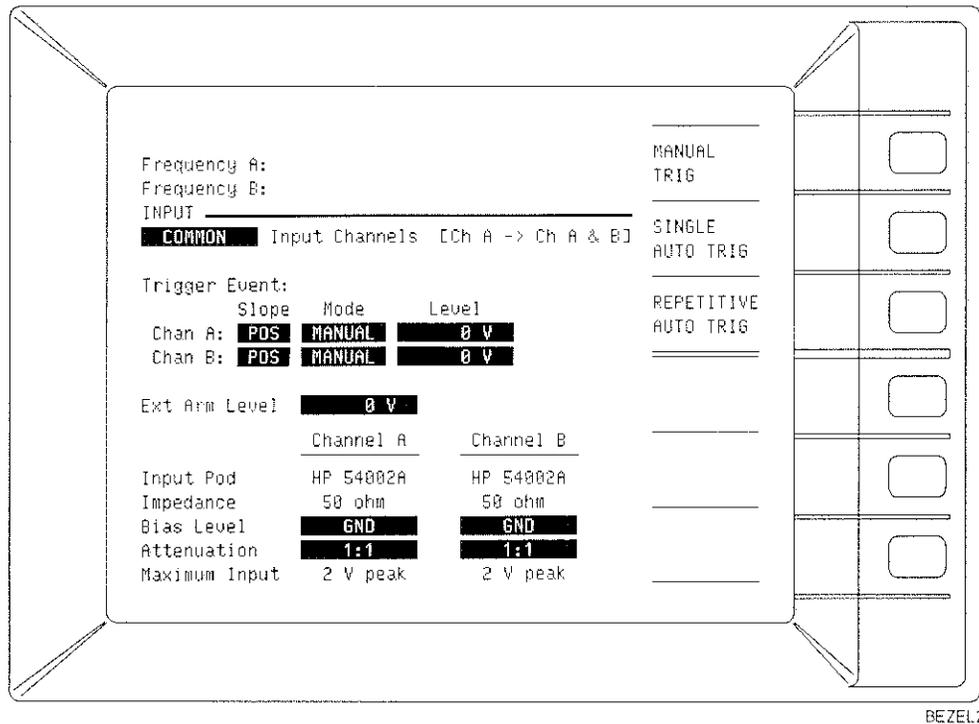

Figure 2-10. Dynamic Input/Operating Range INPUT Screen Display
- P. Press the MANUAL TRIG softkey. (The HP 5371A front-panel CRT display should appear as in *Figure 2-10*.)